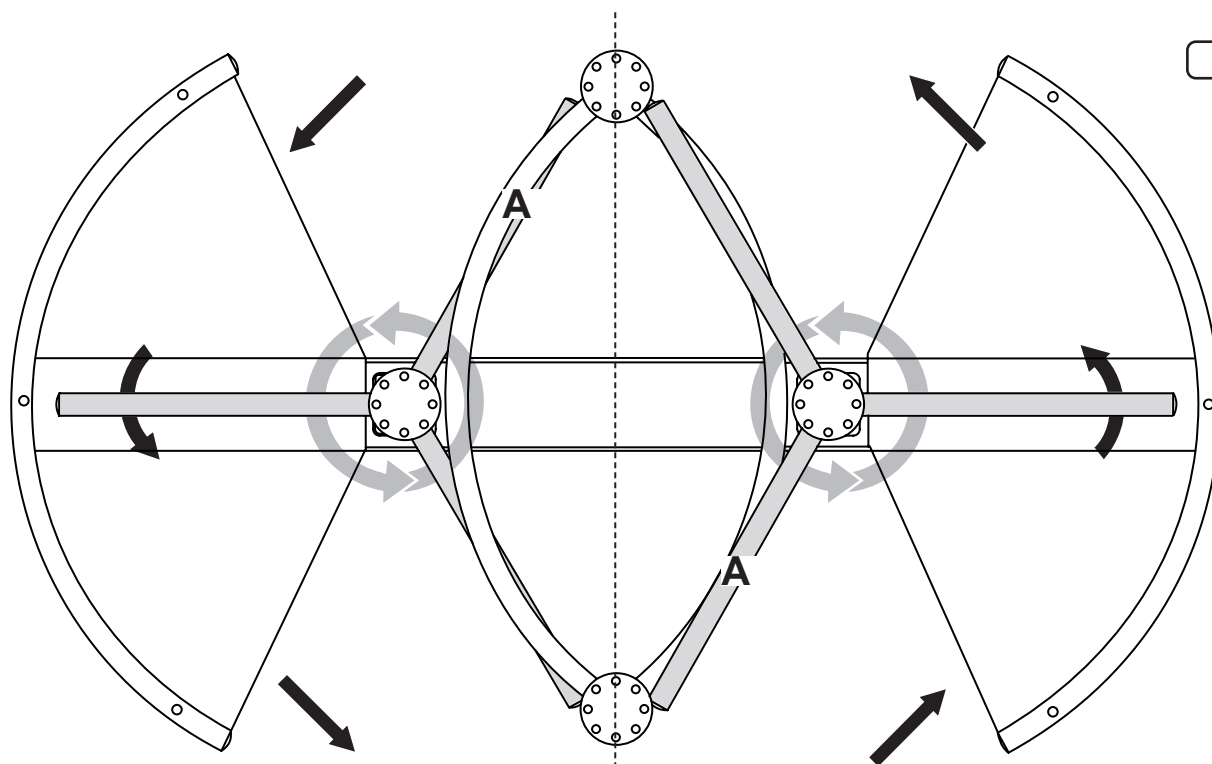

Fig. 30
1. The turnstile should always be in the “Home” position before access is requested (i.e. an access control card is presented to the card reader). (Figure 30).